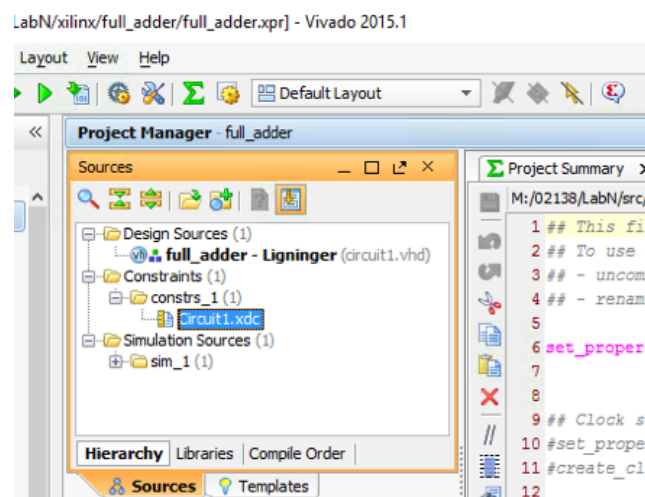

Figure 21. Opening the editor for the XDC file
24. Go to “Project Manager -> Constraints -> constr_1” as shown in Figure 21 and double click on Circuit2.xdc to edit it.